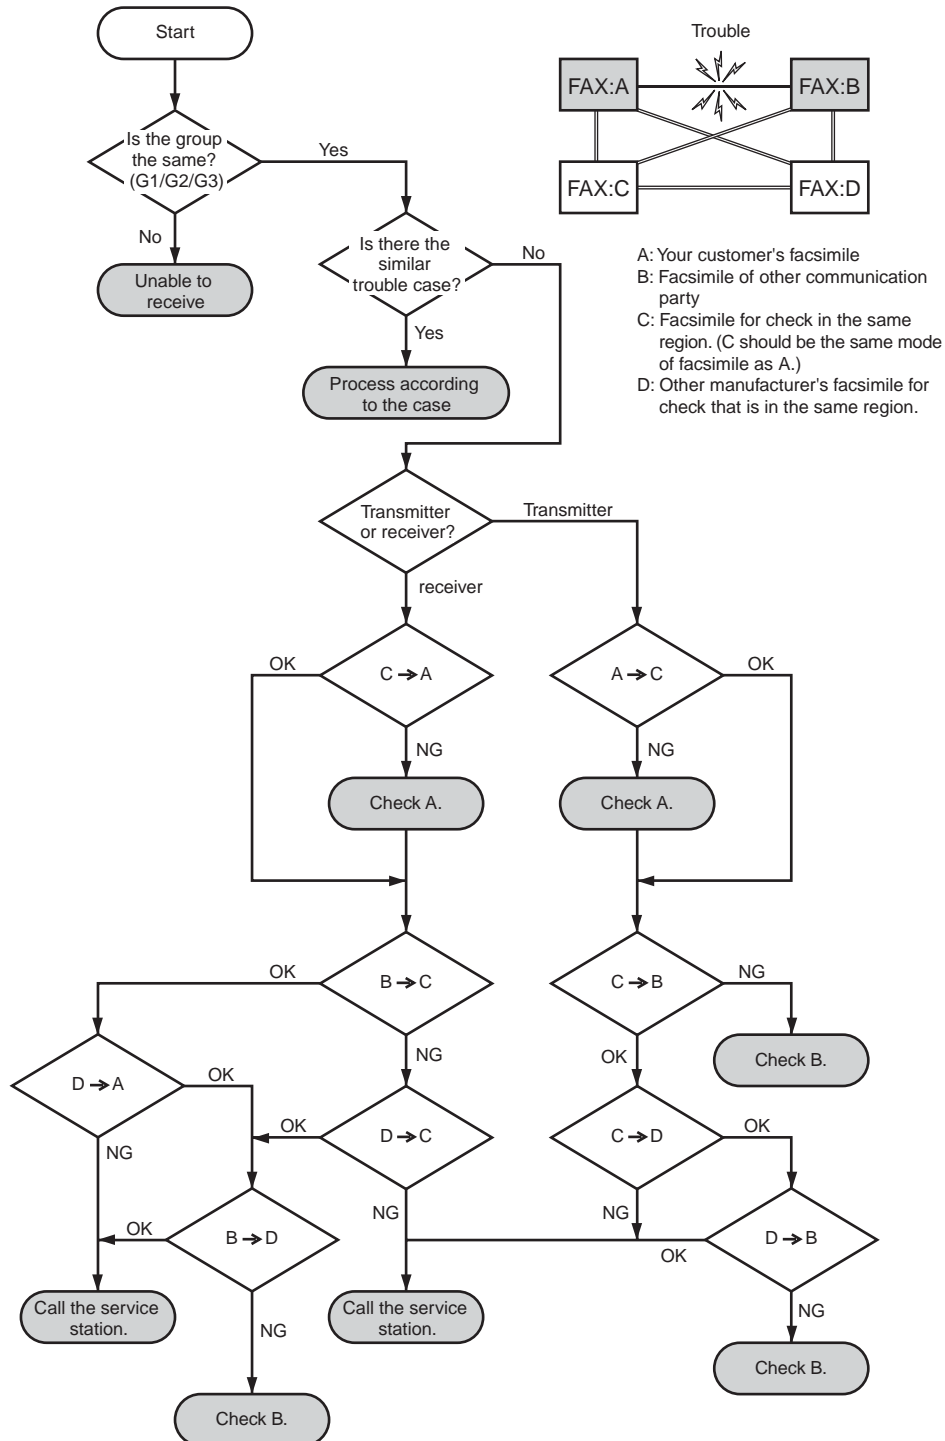

Figure 4-9 Flowchart for Processing Communication Troubles with other manufacturer's facsimile
If the other party's facsimile is that of another manufacturer and there is nothing wrong with your customer's machine, it is recommended that you ask your customer to contact the facsimile user of the other party, so that the other party's facsimile is checked by the dealer. "Call the service station" in the flowchart (Fig.4-9) means that problems may occur with regard to the communication compatibility of facsimile, consult the matter with the staff in charge at the service station. To quicken the resolving of the problem, report the information listed in (1) above.